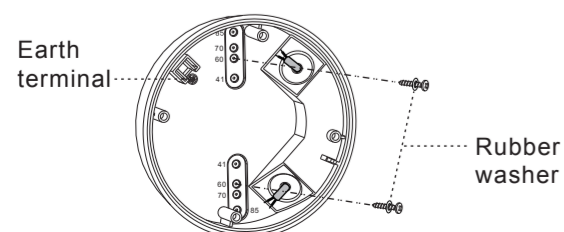

FIG.16
3.4.3.3 Choose proper knockouts to fix the junction box on the surface of ceiling board with 2pcs wood screws attached with rubber washer (See FIG.16).